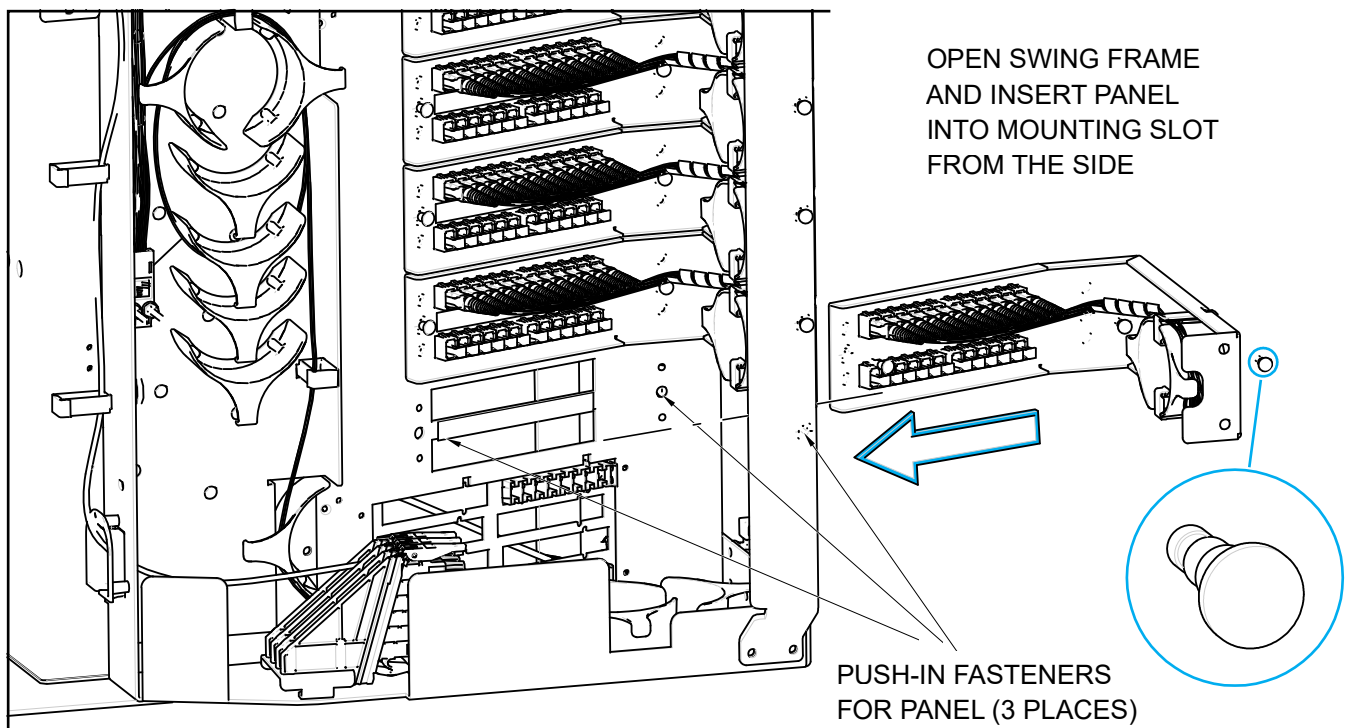

Figure 25. Placing Distribution Panel In Position For Mounting
- 14.9 Place the distribution panel in position for mounting on the rear side of the swing-out assembly as shown in Figure 25. Use the plastic push pins provided to secure the distribution panel to the rear side of the swing-out assembly.